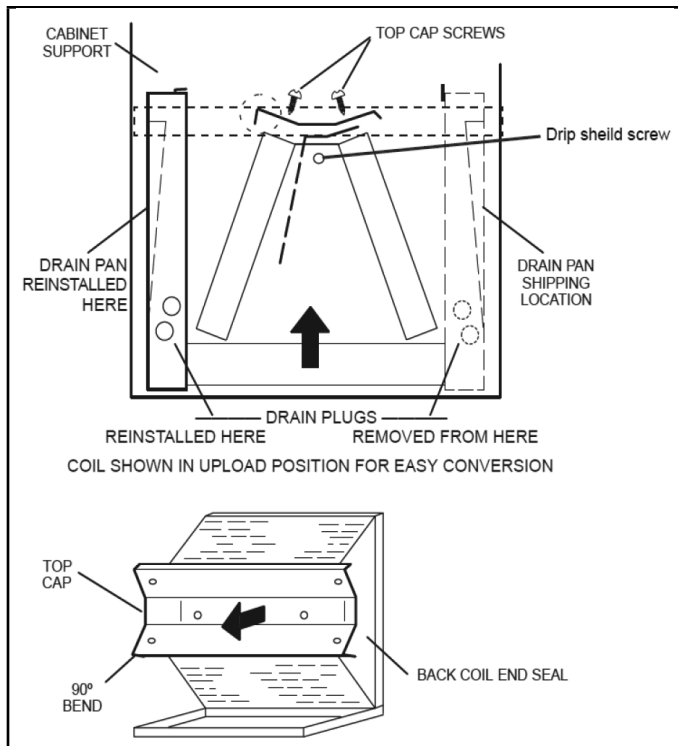

Figure 7. Field Modification for Left-Hand Discharge
- 7 - Reattach top cap to coil using the same screws. See Figure 7.